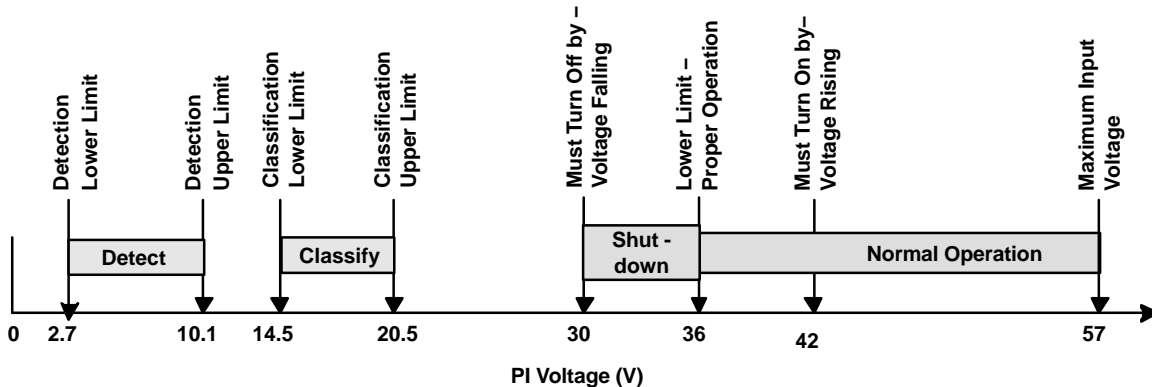
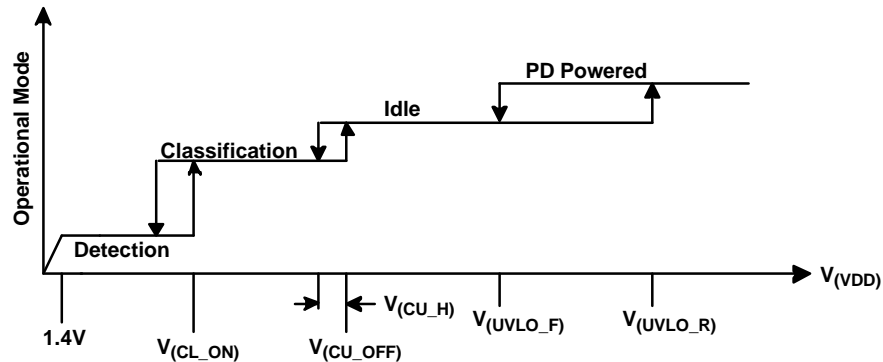

Figure 16. IEEE 802.3 PD Limits
Figure 17. Threshold Voltages
The IEEE 802.3af specification defines a process for safely powering a powered device (PD) over a cable, and then removing power if a PD is disconnected. The process proceeds through three operational states: detection, classification, and operation. The intent behind the process is to leave an unterminated cable unpowered while the PSE periodically checks for a plugged-in device; this is referred to as detection. The low power levels used during detection are unlikely to cause damage to devices not designed for PoE. If a valid PD signature is present, then the PSE may optionally inquire how much power the PD requires; this is referred to as classification. The PD may return a default full-power signature, or one of four other choices. Knowing the power demand of each PD allows the PSE to intelligently allocate power between PDs, and also to protect itself against overload. The PSE powers up a valid PD, and then monitors its output for overloads. The maintain power signature (MPS) is presented by the powered PD to assure the PSE that it is there. The PSE monitors its output for the MPS to see if the PD is removed, and turns the port off, if it loses the MPS. Loss of MPS returns the PSE to the initial state of detection. Figure 16 shows the operational states as a function of PD input voltage range.
In order to implement the PoE functionality as shown in Figure 16, the TPS2375-1 has a number of internal comparators with hysteresis for stable switching between the various states. Figure 17 relates the parameters in the Electrical Characteristics section to the PoE states. The mode labeled *idle* between classification and detection implies that the DET, CLASS, PG, and RTN pins are all high impedance.
The classification process applies a voltage between 14.5 V and 20.5 V to the input of the PD, which in turn draws a fixed current set by  $R_{(CLASS)}$ . The PSE measures the PD current to determine which of the five available classes (Table 1) that the PD is signalling. The total current drawn from the PSE during classification is the sum of bias currents and current through  $R_{(CLASS)}$ . The TPS2375-1 disconnects  $R_{(CLASS)}$  at voltages above the classification range to avoid excessive power dissipation (Figure 16 and Figure 17).
The TPS2375-1 incorporates an undervoltage lockout (UVLO) circuit that monitors line voltage to determine when to apply power to the downstream load and allow the PD to power up. The IEEE 802.3af specification dictates a maximum PD turnon voltage of 42 V and a minimum turnoff voltage of 30 V ( Figure 17). The IEEE 802.3af standard assumes an 8-V drop in the cabling based on a 20- $\Omega$  feed resistance and a 400-mA maximum inrush limit. Because the minimum PSE output voltage is 44 V, the PD must continue to operate properly with input voltages as low as 36 V. The TPS2375-1 UVLO limits are designed to meet the turnon, turnoff, and hysteresis requirements.
The TPS2375-1 uses the UVLO function to control the load through an integrated MOSFET switch. Figure 17 graphically shows the relationships of the UVLO thresholds defined in the Electrical Characteristics section to the TPS2375-1 operational states.